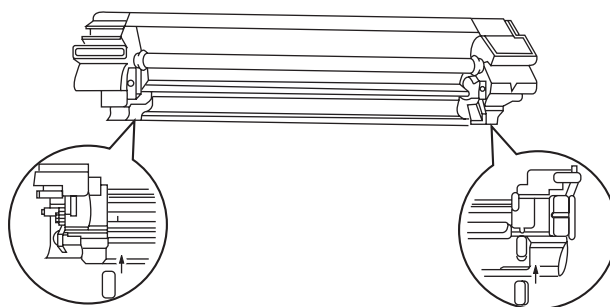

Figure 4-339
- 2) Attach the side seal as indicated in Figure 4-339.